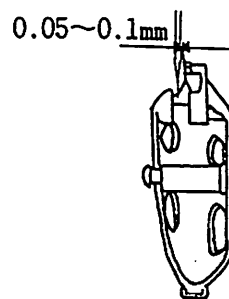

Fig. 9.6
- (3) Now adjust the position of the rotating hook so that a clearance of 0 to 0.05 mm is created between the head of the inner hook and needle. (See Fig. 9.6) The rotating hook can be moved by first loosening its set screw and then turning the eccentric pin using a slot-head screwdriver.